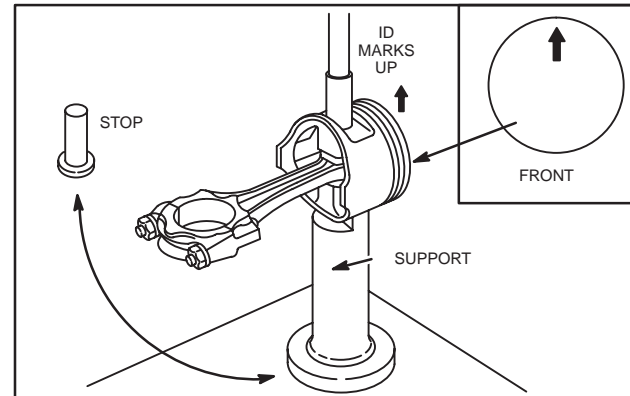

Fig. 11 – Installing Piston Pin
2. Insert piston pin stop in bottom of piston support, Fig. 11.